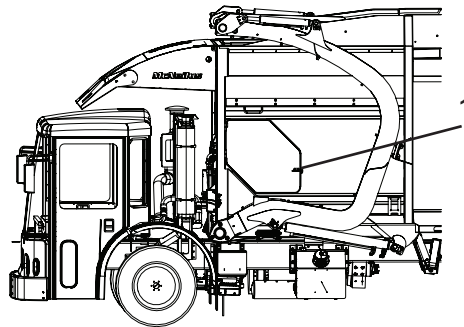

Figure 46
5. Unlatch the side door handle (Figure 46, Item 1) and open the side door.